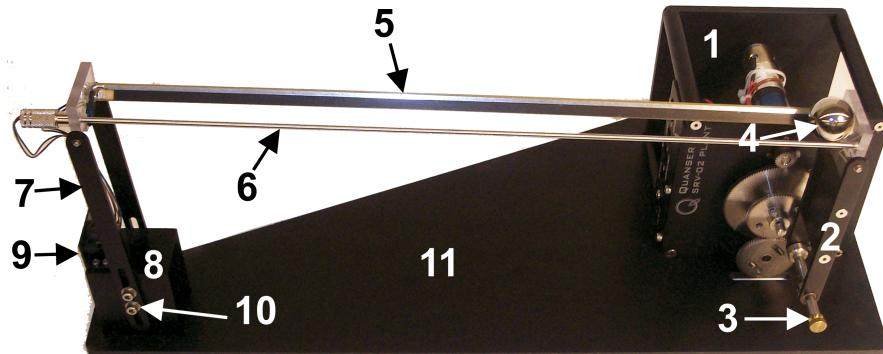
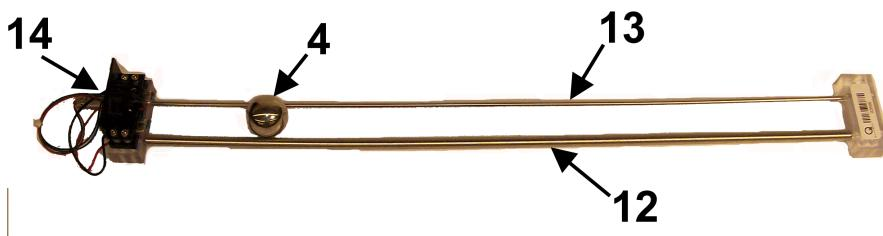
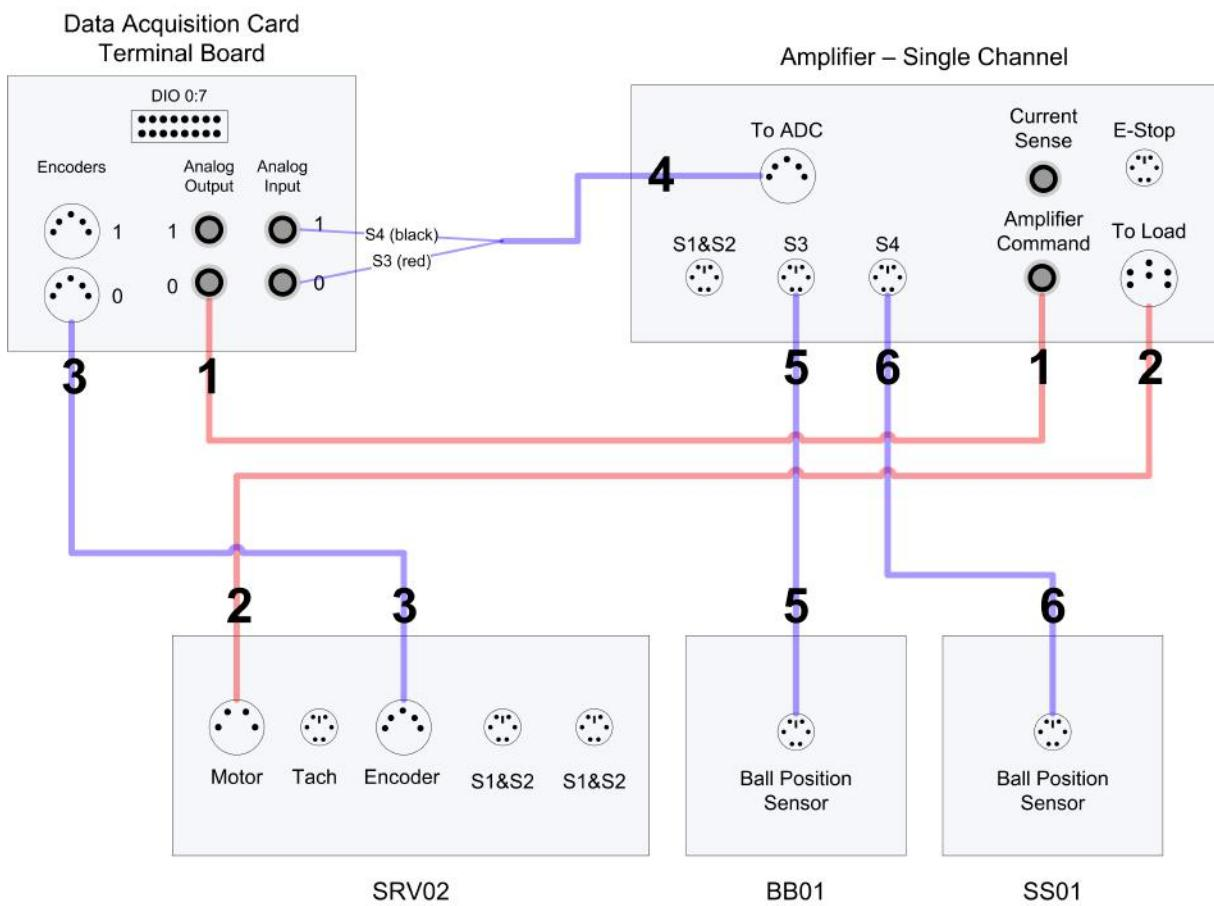

Figure 2.1: Components on Ball and Beam system
Figure 2.2: Components on Remote Sensor system
Figure 5.1: BB01 connections using generic DAQ with a single-channel amplifier
The components of the Ball and Beam module, i.e., the BB01 device, and the Remote Sensor system, i.e., SS01, are listed in Table 2.1 and labeled in Figure 2.1 and Figure 2.2.
2. Lay the calibration base, component #11 in Figure 2.1, flat on a table surface.
5. Place the support base of the ball and beam, component #8 into the cut-out section of the base, as pictured in Figure 2.1.
This section describes the typical connections used to connect the SRV02 plant to a data-acquisition board and a single-channel power amplifier. The connections are described in detail in the procedure below, summarized in Table 5.2, and pictured in Figure 5.1.
Note: The data-acquisition device used in Figure 5.1 is representative for any DAQ device. For example, if you are using a DAQ with 8 analog input/output channels (e.g., like the Quanser QPID or QPIDe), then the same connection are performed.
3. Connect one end of the 2xRCA to 2xRCA cable from the Analog Output Channel #0 on the terminal board to the *Amplifier Command* connector on the amplifier, i.e. use both white or both red RCA connectors. See cable #1 shown in Figure 5.1. This carries the attenuated motor voltage control signal, V_m/K_a , where K_a is the amplifier gain.
4. Connect the 4-pin-stereo-DIN to 6-pin-stereo-DIN cable from *To Load* connector on the amplifier to the *Motor* connector on the SRV02. See connection #2 shown in Figure 5.1. The cable transmits the amplified voltage that is applied to the SRV02 motor and is denoted V_m .
5. Connect the 5-pin-stereo-DIN to 5-pin-stereo-DIN cable from the *Encoder* connector on the SRV02 panel to Encoder Input # 0 on the terminal board, as depicted by connection #3 in Figure 5.1. This carries the load shaft angle measurement and is denoted by the variable θ_l .
7. Connect the *Ball Position Sensor* connector from the BB01 to the S3 socket on the amplifier using the 6-pin-mini-DIN to 6-pin-mini-DIN cable. See connection #5 in Figure 5.1. This carries the measured ball position from the beam potentiometer and is denoted by variable x .
8. If the SS01 remote sensor module (shown in Figure 2.2) is used, then connect *Remote Ball Position Sensor* connector from the SS01 remote sensor module to the S4 socket on the amplifier using the 6-pin-mini-DIN to 6-pin-mini-DIN cable. See connection #6 in Figure 5.1. This measures the ball position on the remote sensor and is denoted by x_d .